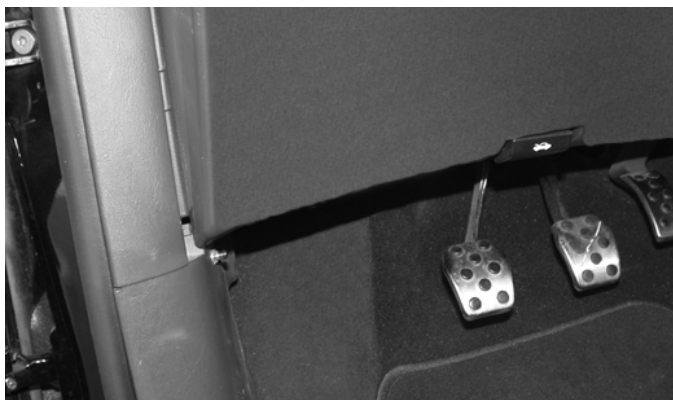

Fig. 14-a
- B. Locate the vehicles OBD2 connector located in the lower left hand corner of the dash on the drivers side of the vehicle. (See Fig 14-a.)
- C. Attach the OBD2 connector from the Flash tool that is provided in the kit to the vehicle's OBD2 port. (See Fig 14-b.) Make sure this connector is seated all the way in the vehicles OBD2 port. You do not want this connector coming out during programming or damage may occur to the vehicle's ECM.